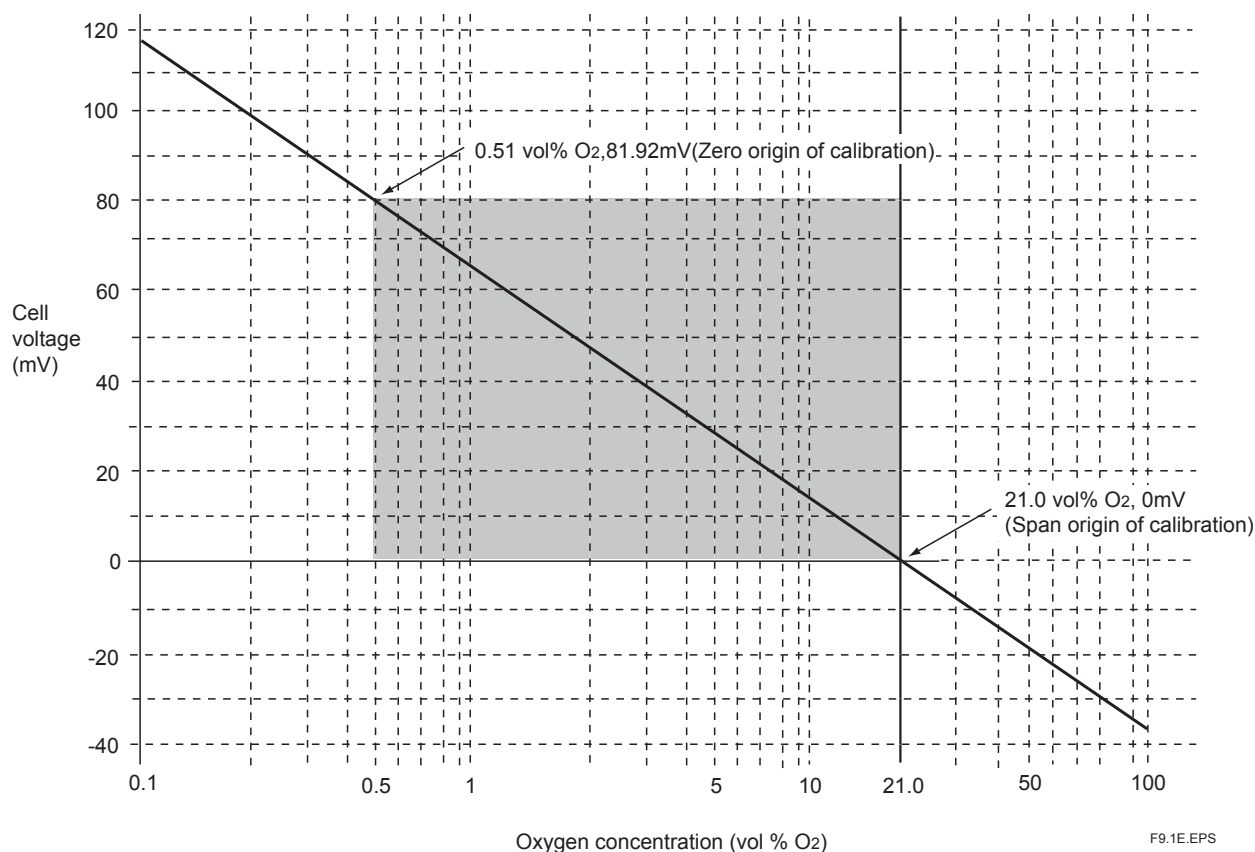

Figure 9.1 Oxygen concentration in a Sample Gas vs Cell Voltage (21 vol% O₂ Equivalent)
With this analyzer, the sensor (zirconia element) is heated up to 750°C, so Equation (2) is valid. At that point, the relationship as in Figure 9.1 is effected between the oxygen concentration of the sample gas in contact with the positive electrode and the electromotive force of the sensor (cell), where a comparison gas of air is used on the negative electrode side.